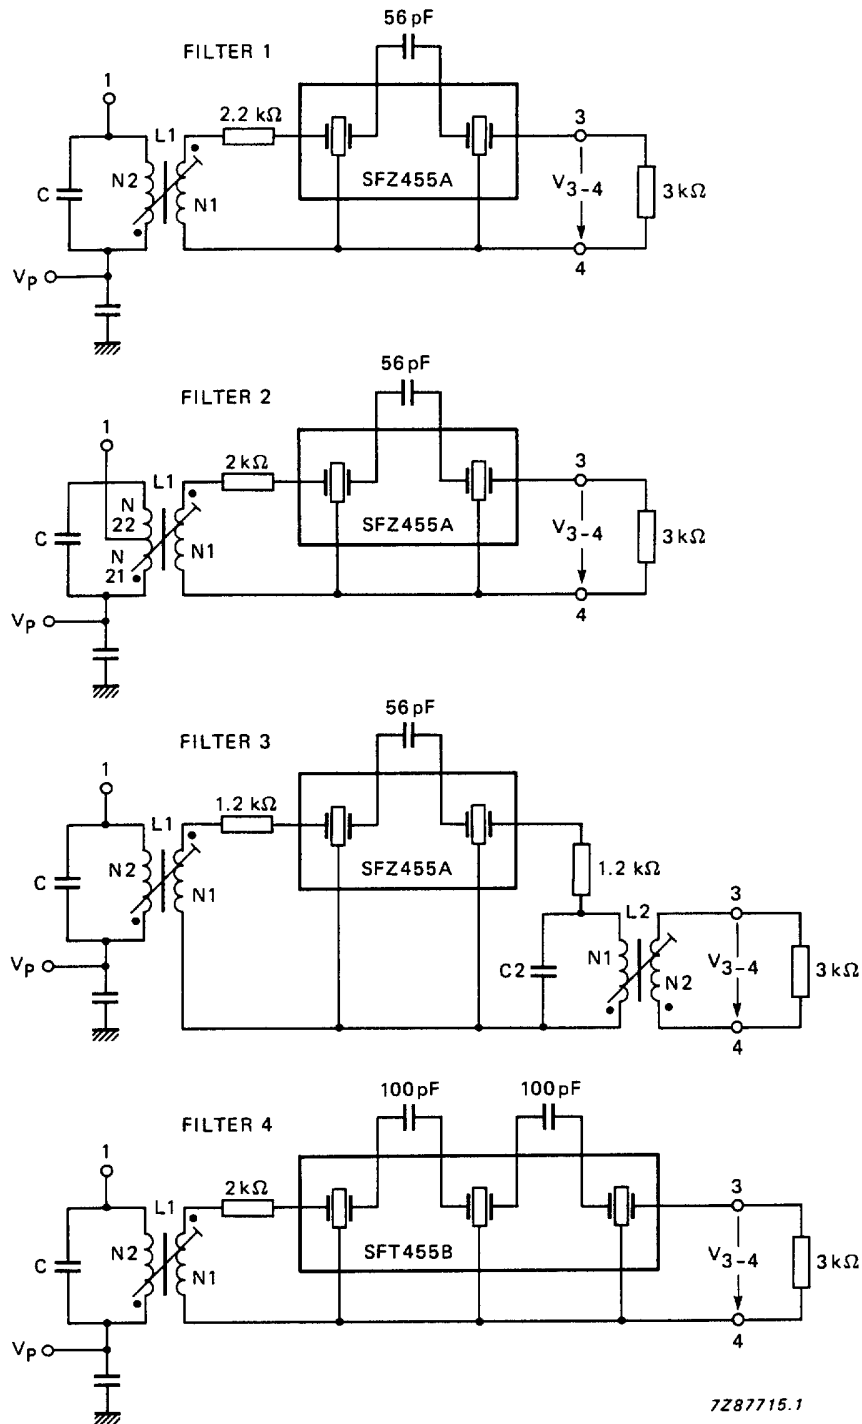

Fig.15 IF filter variants applied to the circuit of Fig.1; for filter data refer to Table 1.
**Table 1** Data for IF filters shown in Fig.15. Criterion for adjustment is  $Z_F = \text{maximum}$  (optional selectivity curve at centre frequency  $f_o = 455 \text{ kHz}$ ).